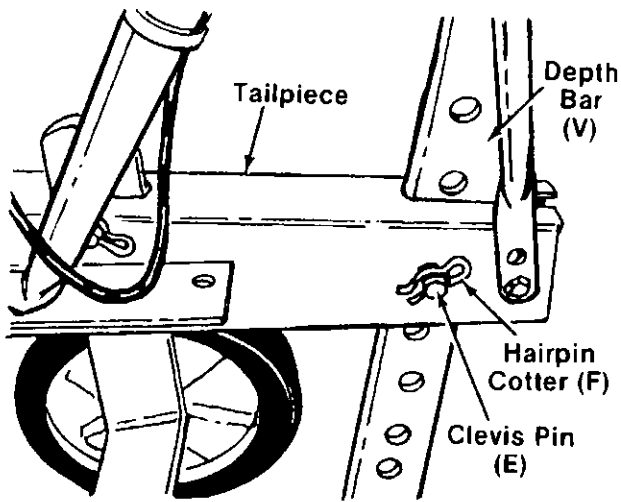

FIGURE 19.
23. Place the depth bar (V) in position on the tailpiece. Secure with clevis pin (E) and hairpin cotter (F). See figure 19.